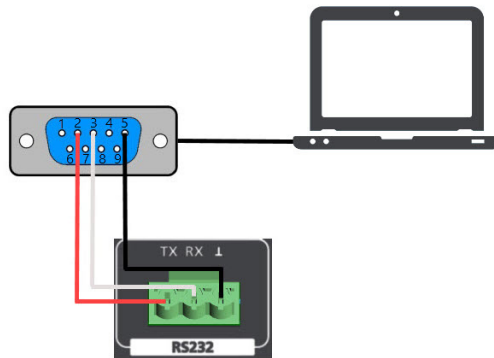

Figure 18. RS232 Wiring
The PC must be connected to the PREZONE2 via the RS232 port on the back of the device. The user will need an RS232 connector (if the PC has an RS232 port) or a USB to RS232 connector. See Figure 18 for a connection diagram.
3. Connect the PC to the PREZONE2 RS232 port via an appropriate connector as shown in Figure 18.